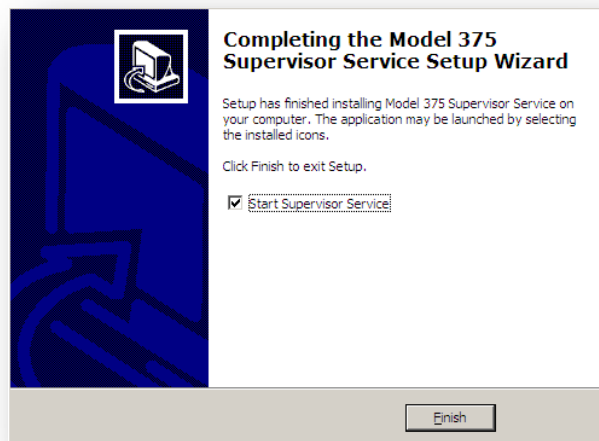

Figure 17 – Model 375 Web Page and Supervisor Service Installation Finished
9. When installation is complete, your screen should resemble Figure 17.